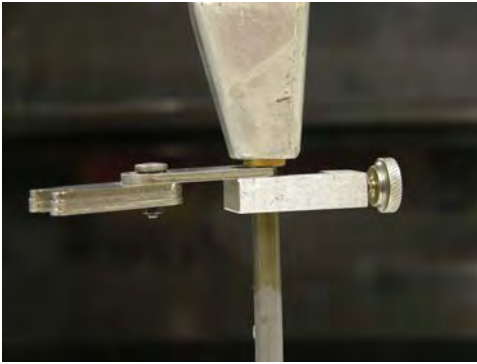

Figure 9.1
- Place the 2.2mm feeler gauge between the clamp and the projected bearing in the head frame (see Figure 9.1).